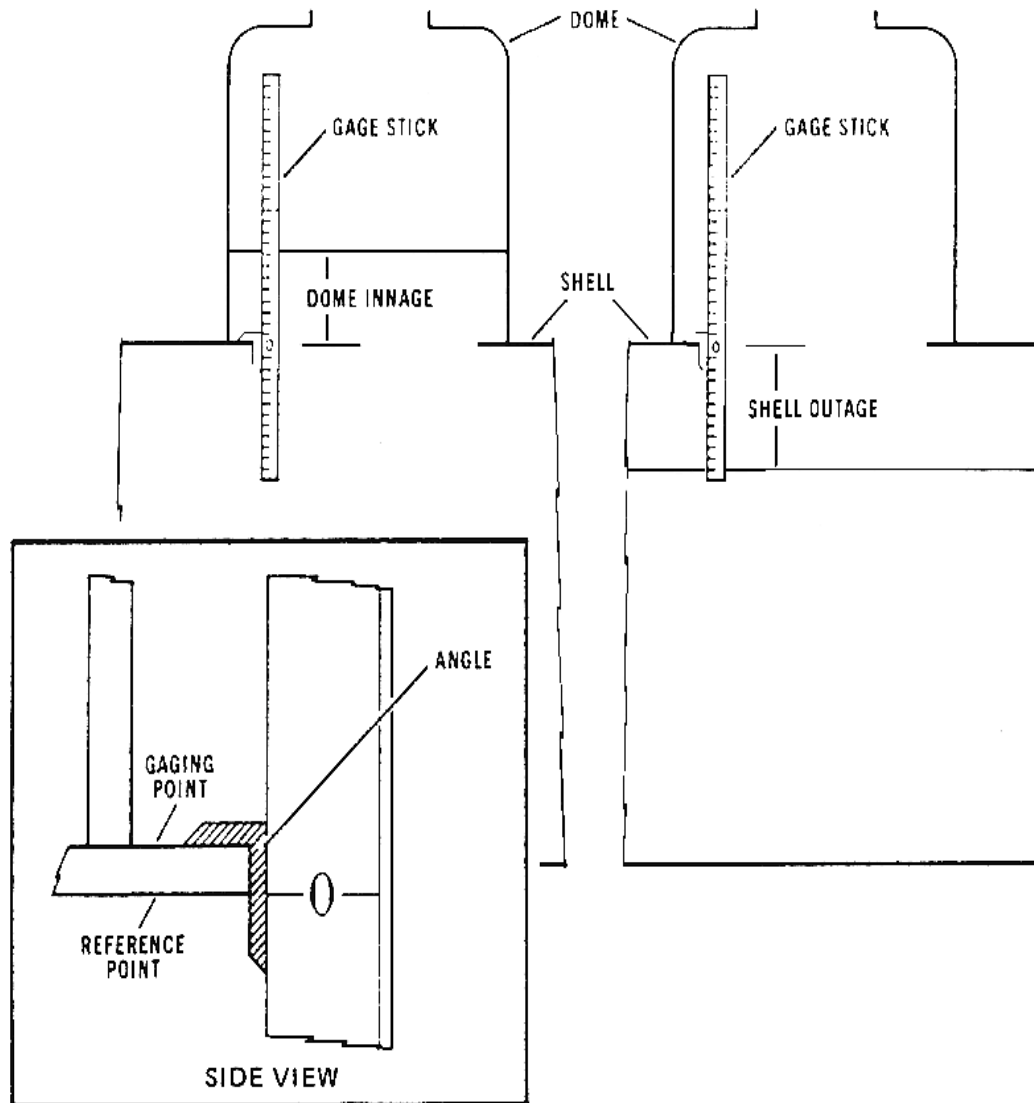

Figure 3-13. Using the tank car gage stick to determine dome innage and shell outage
- Taking the gage. Insert the gage stick, with the short end down, through the dome hatch into the tank car so that the angle rests on the tank shell at the gaging point (Figure 3-13, page 3-11). The gaging point should be the highest point of the tank car shell on a line with the lengthwise center of the car. Find where the shell plates overlap along the centerline of the tank. Select a gaging point on the interior of the tank. If the product level is in the dome and the gaging stick is not visible, it may be necessary to probe with the end of the stick to find it. Make sure the angle does not rest on a rivet head and that the stick is vertical.